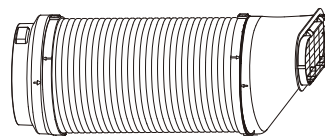

Fig. 2
- Fig. 2 is the assembled exhaust hose.